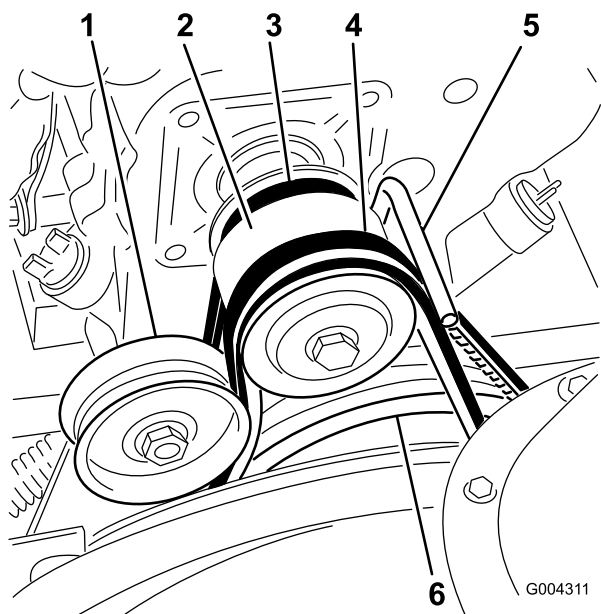

Figure 31
1. Flange-head bolt (2)
3. Loosen the belt guide (Figure 31).
4. Remove the auger/impeller drive belt from the engine pulley and the large auger/impeller pulley (Figure 31).
9. Remove the traction drive belt from the engine pulley and the large traction pulley (Figure 31).
11. Loop the belt over the engine pulley, ensuring that the belt is on the inside of the belt guide (Figure 31).
16. Install the auger/impeller drive belt around the large auger/impeller pulley and engine pulley, ensuring that the belt is on the inside of the idler pulley and the belt guide (Figure 31).
2. Loosen the belt guide (Figure 31).
3. Remove the auger/impeller drive belt from the engine pulley and the large auger/impeller pulley (Figure 31).
4. Install a new belt around the large auger/impeller pulley (Figure 31).
5. Loop the belt over the engine pulley, ensuring that the belt is on the inside of the idler pulley and the belt guide (Figure 31).